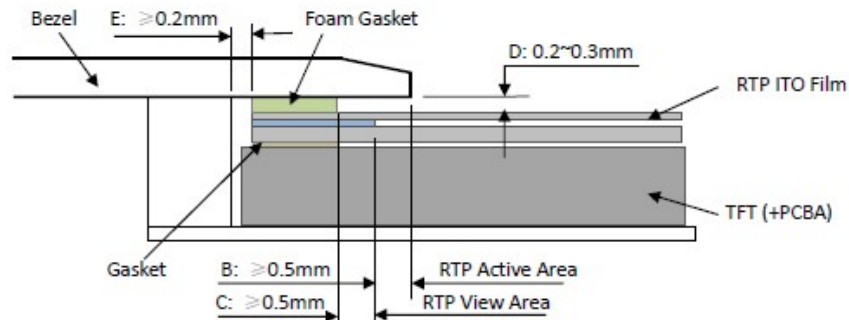

Figure 4
- It should bezel touching the RTP Active Area (A.A.) to prevent abnormal touch. It should left gap $D=0.2\sim 0.3\text{mm}$ in between. (Figure 4)
- 为避免面框直接压在动作区 (A. A.) 上造成误动作，面框与电阻触摸屏 (RTP) 之间应留有一定的空隙 $D=0.2\sim 0.3\text{mm}$ 之间。(附图 4)
(between the bezel and RTP). The suggested figures are $B \geq 0.50\text{mm}$; $C \geq 0.50\text{mm}$. (Figure 4)
- The bezel side wall should keep space $E = 0.2 \sim 0.3\text{mm}$ from the RTP. (Figure 4)
边缘到 V. A. 区的距离 $C \geq 0.50\text{mm}$. (附图 4)
- 在设计面框与 RTP 组装时, 应考虑到面框内侧与 RTP 外侧的间距 $E \geq 0.2\text{mm}$. (附图 4)